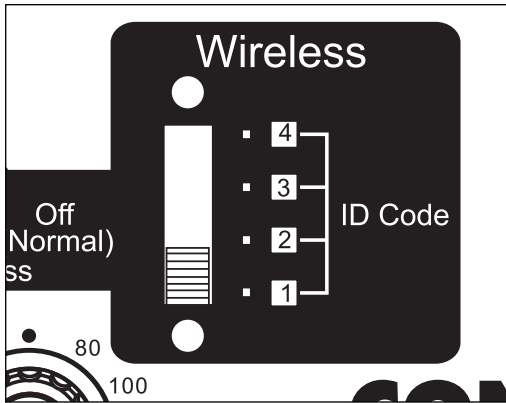

Figure 20: ID code selector
1. Adjust the four-position ID Code selector, shown in Figure 20, to the desired channel on the rear panel of the TX1 transmitter.